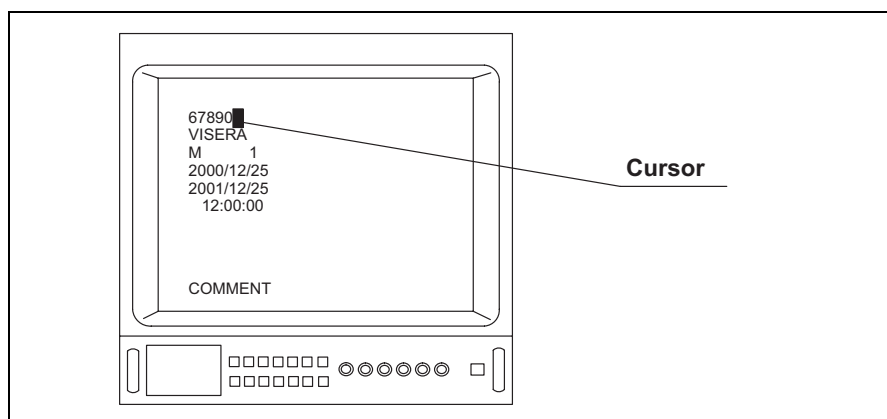

Figure 5.56
2. Depress the “↑/↓/←/→” key on the keyboard to move the cursor to the next item that you would like to enter (see Figure 5.56).
Depending upon the OTV-S7V's settings, the menu shown in Figure 5.56 may appear different from that displayed on the video monitor.